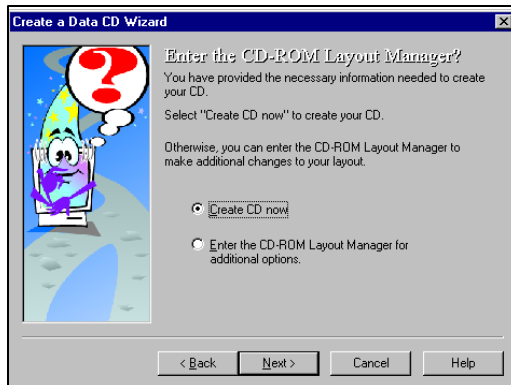

Figure 7
7. At the CD-ROM Layout Manager, click on the Create CD Now radio button to allow the process to start without a trial run. Click on the Next button to continue. See Figure 7 below.